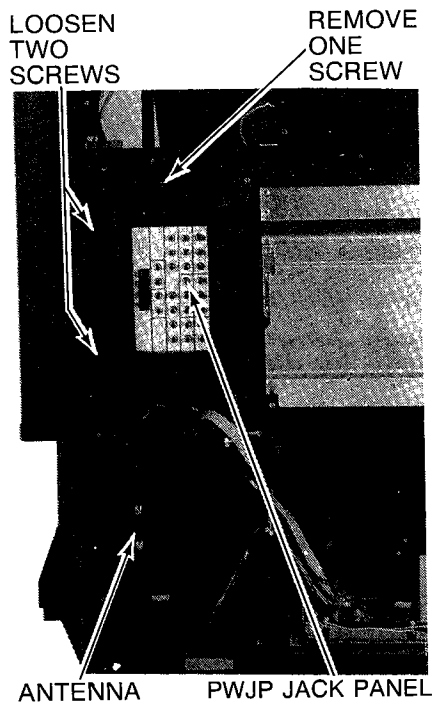

Fig. 15 — PWJP/PWVIO Video/Sound Assembly
1. With cabinet back removed, remove one (1) screw and loosen two (2) screens (Fig. 15).